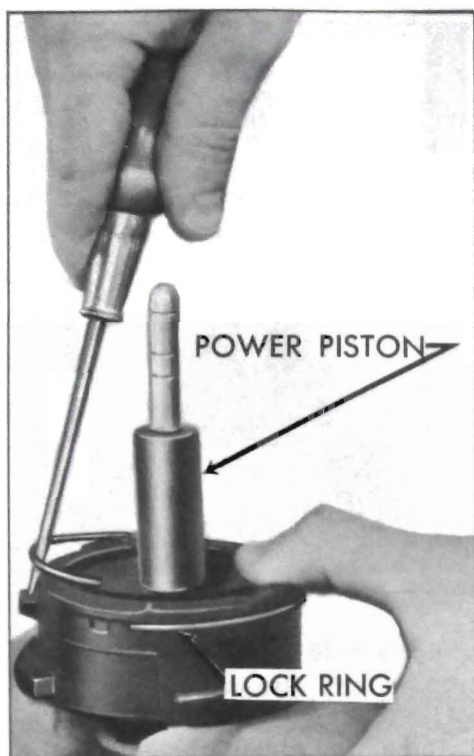

Figure 9-22—Removing Locking Ring from Power Piston
1. Remove the lock ring from the power piston by prying one of the ends out from under the large divided locking lug, and then proceed to pull it from under the other two small locking lugs on the power piston. See Figure 9-22.